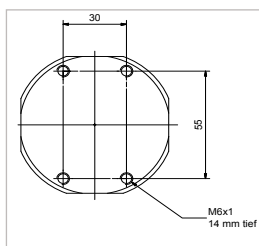

Figure 3
- Optionally, the T-Filter can be attached at any position via the 4 bores. To do this, fasten the T-Filter according to the hole pattern (*Figure 3*).